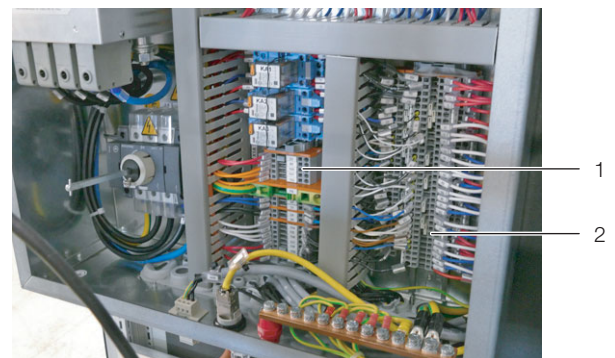

Fig. 31: Terminal strips X1A and X2A in the electronics box
- If you wish to switch the LCP DX on and off remotely: In the electronics box at the terminal strip X1A, remove the jumper between the two terminals 30 and 80 ("Remote On-Off") and connect a floating remote switch (normally open contact) (fig. 31, item 1). If the two terminals are not jumpered, the status message "Din-Off" will appear in the display.